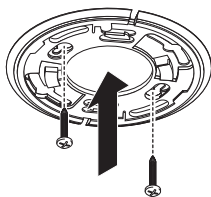

FIGURE 6
1. Place mounting bracket on ceiling or wall in prearranged location and use a pencil to trace two opposing hole positions for mounting screws. Drill two holes using a 1/16 in. (2mm) drill bit. See Figure 6.
2. Use mounting screws provided for attaching to studs or woodwork. For plaster or plasterboard, you may wish to use plastic anchors and screws. In this case, drill two holes using a 3/16 in. (5mm) drill bit in the centers of the hole locations and insert anchors into holes. See Figure 6.